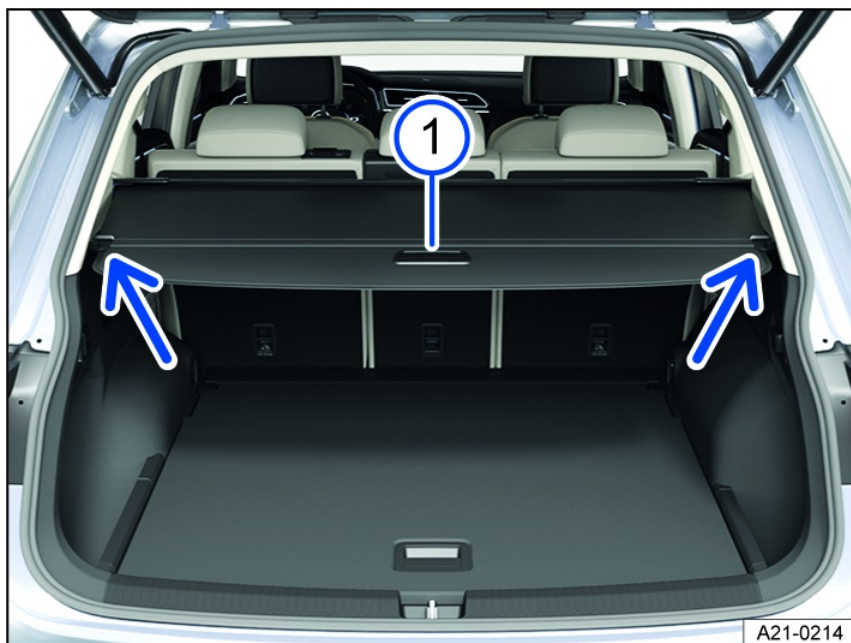

Fig. 168 In the luggage compartment: open the luggage compartment cover (general example).
1. Pull the luggage compartment cover out by the handle *fig. 168* ① and pull it upward out of the side retainers (arrows).
1. Pull the luggage compartment cover back by the handle *fig. 168* ① and attach it to the anchorage (arrow).